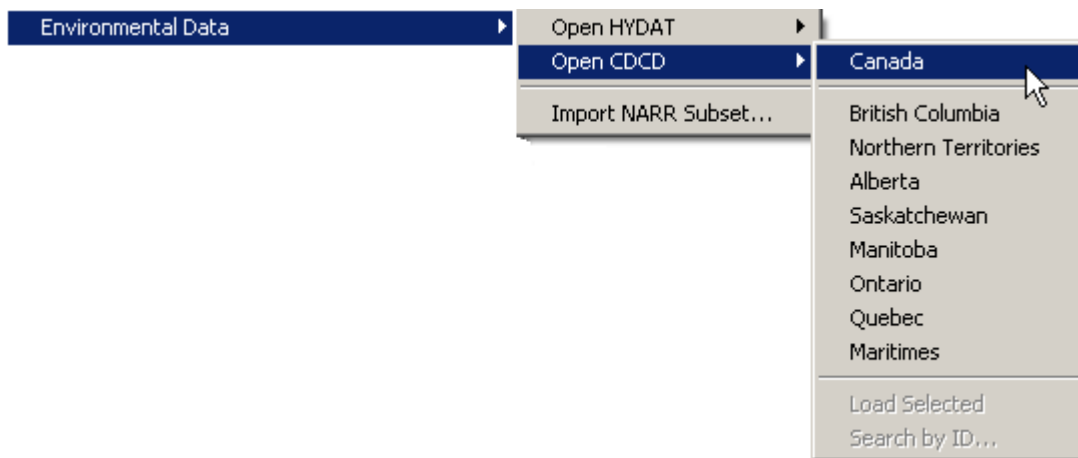

Figure 3.11: This menu is used to access the CDCD database
2. The CDCD stations can be accessed for all of Canada, or by individual region. Select one of the choices shown in Figure 3.11.